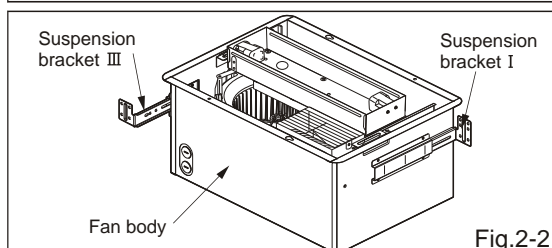

Fig.2-2
19.2 inches vertical joists	Refer to Fig. 2-2